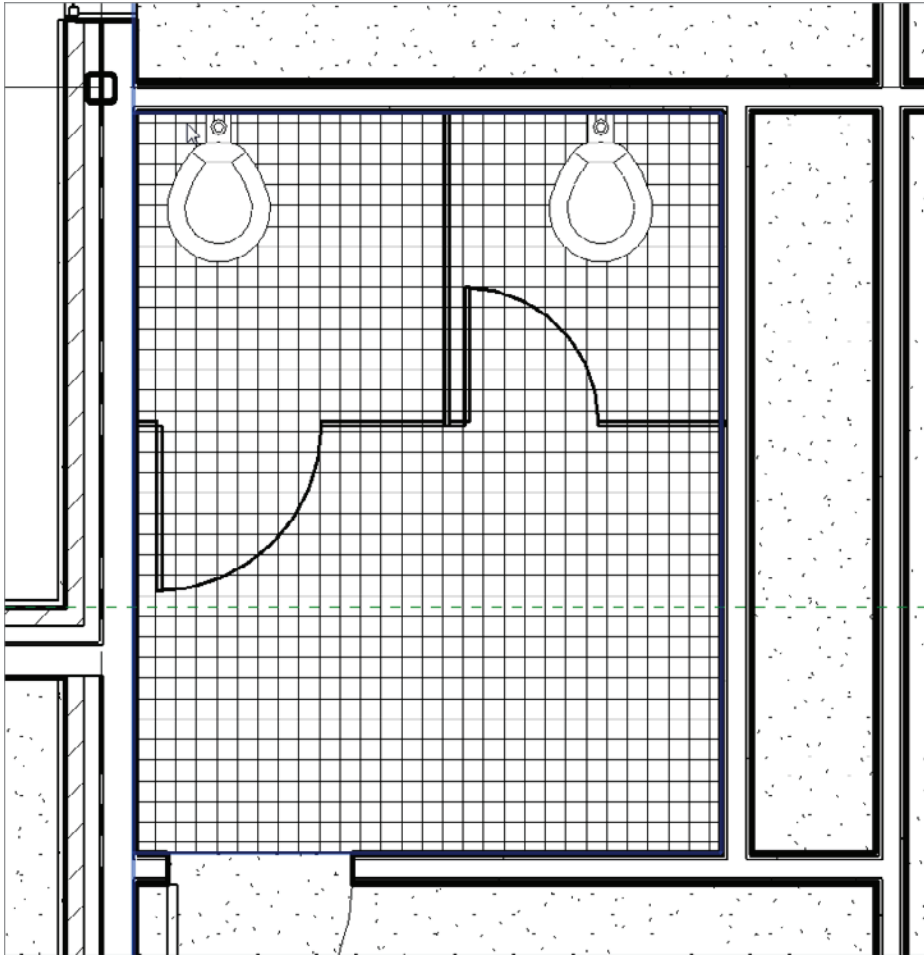

FIGURE 9.41 The two toilets and stalls in place
7. Place the stall in the model (see Figure 9.41).